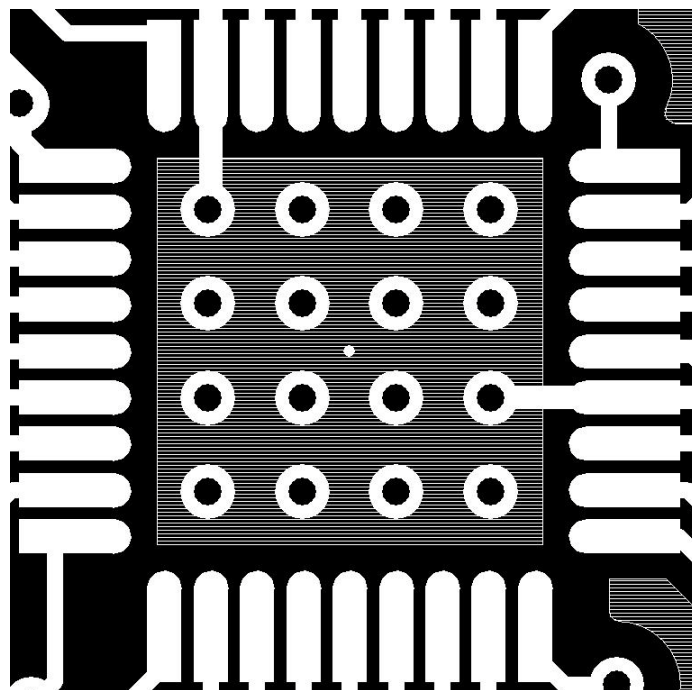

Figure 9. Ground Pad Recommended Layout
- Added Figure 9, "Ground Pad Recommended Layout," on page 67
- Replaced Figure 9.